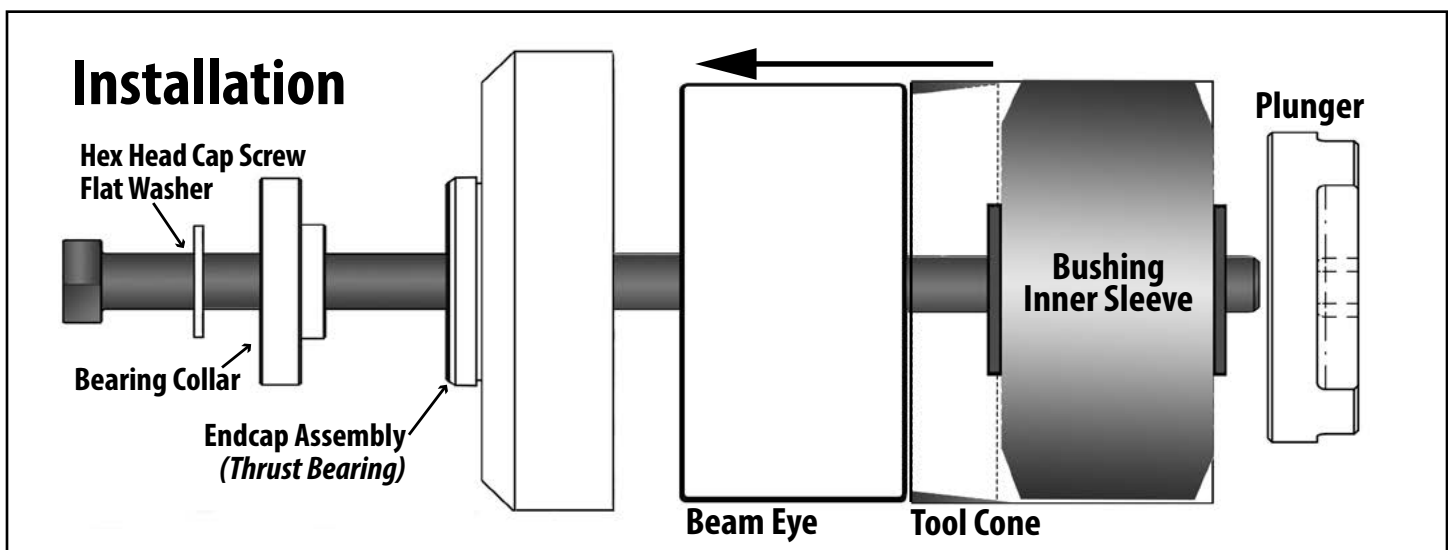

Figure 7.
2. Liberally apply P80® lubricant or a soap solution to the inside of the beam eye, the outside of the new bushing and inside the tool cone. Insert new bushing into the larger opening of the tool cone (Figure 7).